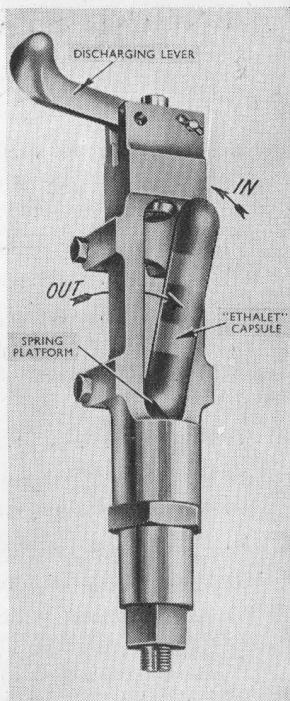

Fig. 6. "Ethalet" Tool.
- (ii) Move the starting switch (21) to the "on" position.
- (iii) Remove the dummy capsule from the "Ethalet" tool (see Fig. 6).